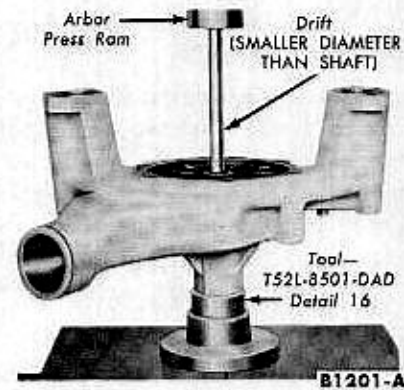

FIG. 3—Shaft Removal
2. Position the pump on an arbor press and press the shaft off the impeller and out of the housing (Fig. 3).